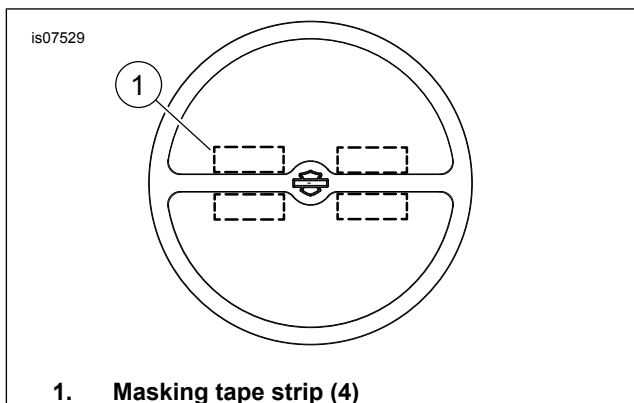

Figure 2. Speaker Grille
3. See Figure 2. With the protective tape still in place on the adhesive backing, position the speaker grille trim (2) against the speaker grille.
5. Apply four masking tape strips (1) directly to the speaker grille, above and below the trim ring cross-bar on both sides of the center Bar & Shield logo. These strips serve as an installation guide.